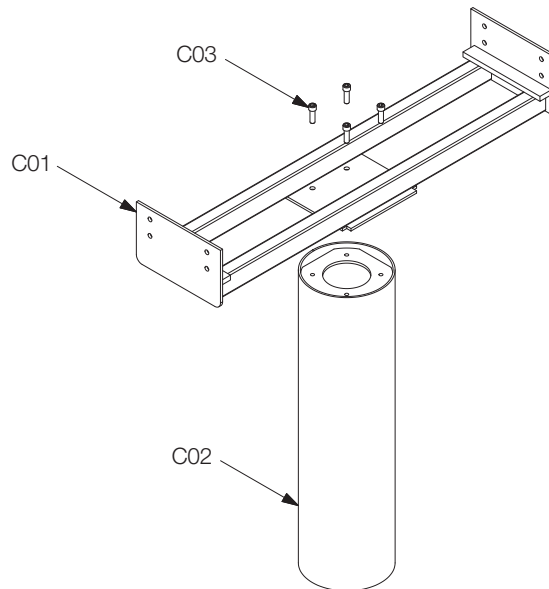

Fig. 02: Intermediate base
- 2.1. Assemble mount (C01) to round column (C02) using fastener (C03), 4 places. (See Fig. 02)